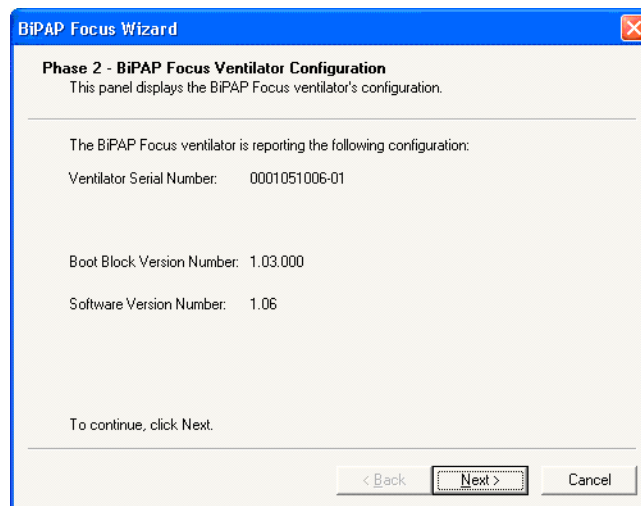

Figure 6-14: Ventilator Configuration
5. Click **Next**, the ventilator configuration dialog box appears (Figure 6-14).